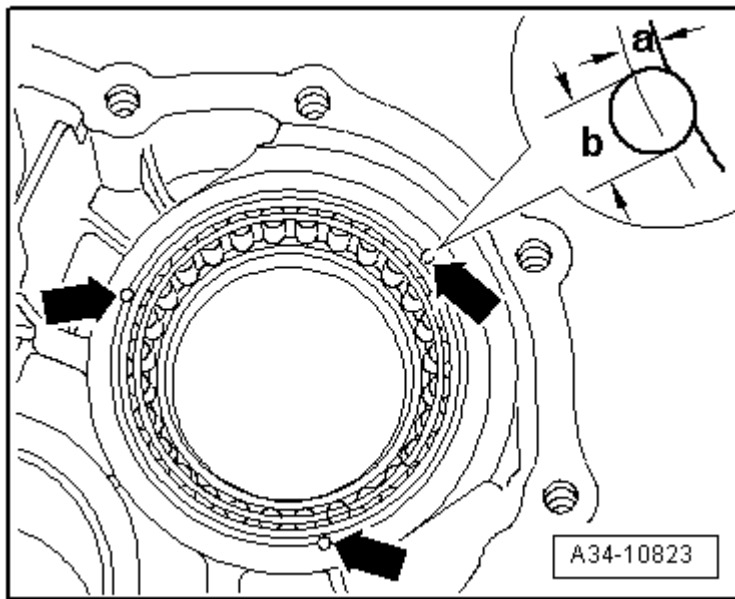

Fig. 59: Securing Needle Bearing Inside Transmission Cover By Peening It
- Secure after installing with peen, refer to **Fig. 59**
-- Secure needle bearing after pressing into transmission cover with peen. Refer to **Fig. 59**.